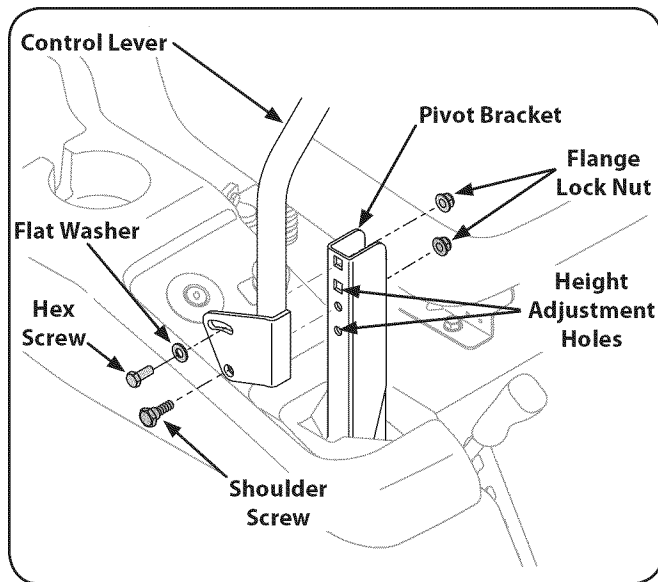

Figure 6-4
2. While supporting the control lever to keep it from falling, remove the flange lock nut and shoulder screw from the bottom of the control lever and pivot bracket. Refer to Fig. 6-4.
1. If not already loose, loosen the flange lock nut and rotate the control lever either forward or rearward to the desired position. See Fig. 6-4.